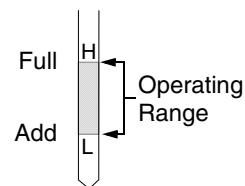

Figure 53
- Always keep the oil level between the 'H' (full) and the 'L' (add) marks on the dipstick. See Figure 53.
- SLOWLY pour oil into the crankcase until the oil level reaches the "FULL" mark on the dipstick. Refer to Figure 53.